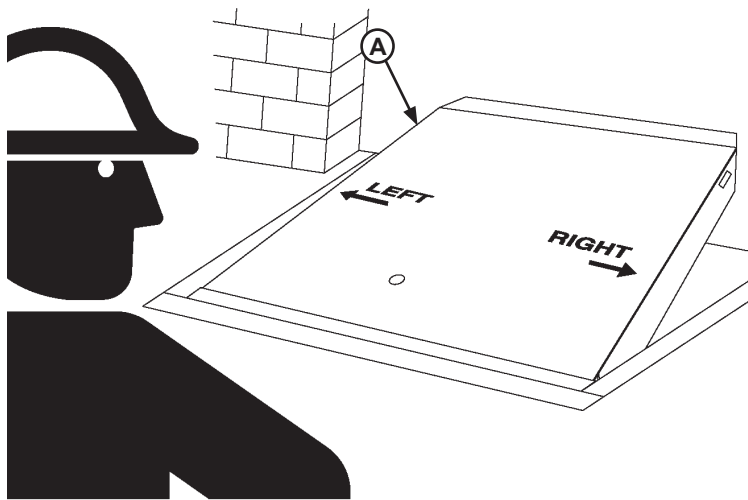
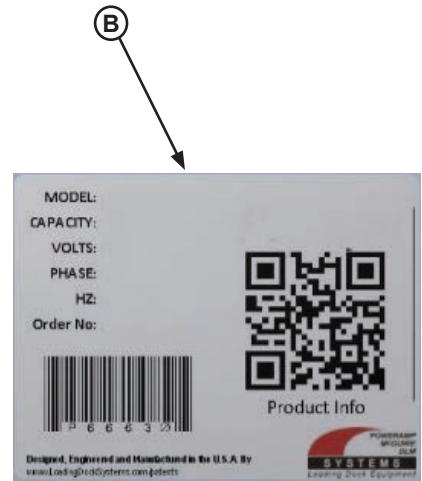

Figure 33
Figure 34
**NOTE:** Refer to Figure 33 for left/right orientation of dock leveler and Figure 34 for example of decal.